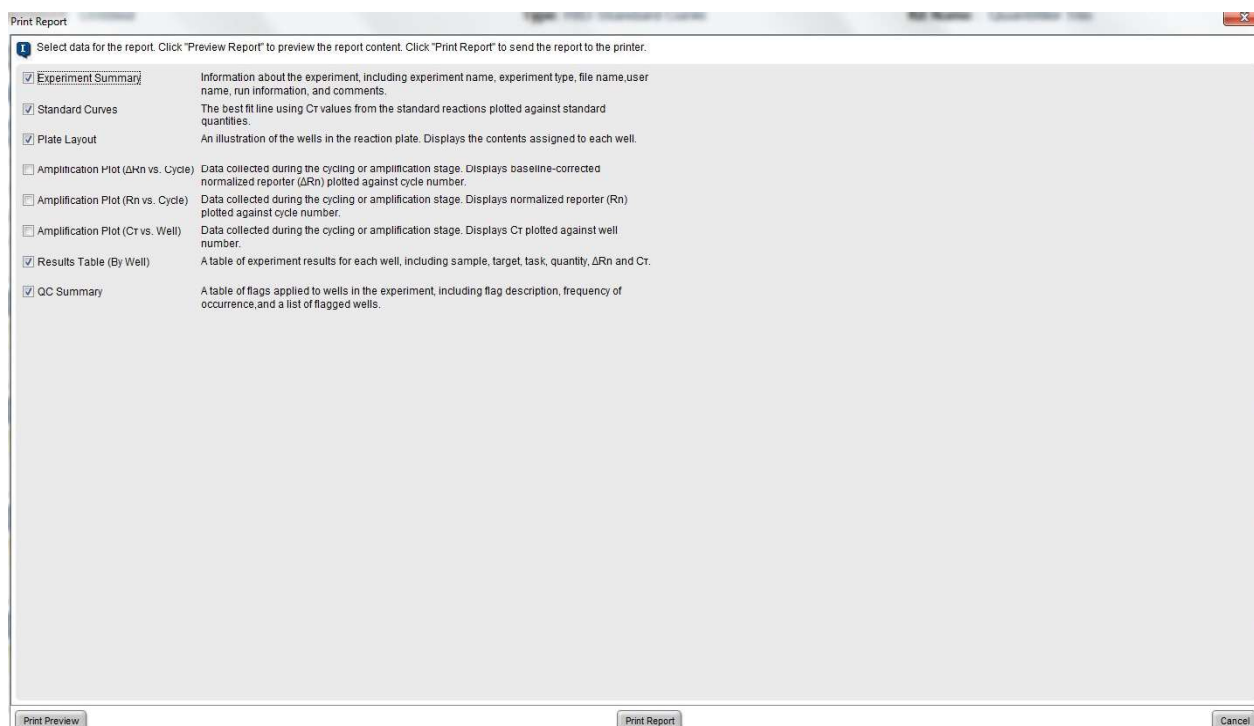

Figure 18: Print Report selection window to export.
8. Print the **Results Report** as a .PDF file by clicking on **PRINT REPORT** on the top tool bar (Figure 18). The report file will include the Experiment Summary, Plate Layout, Standard Curves and the QC Summary.